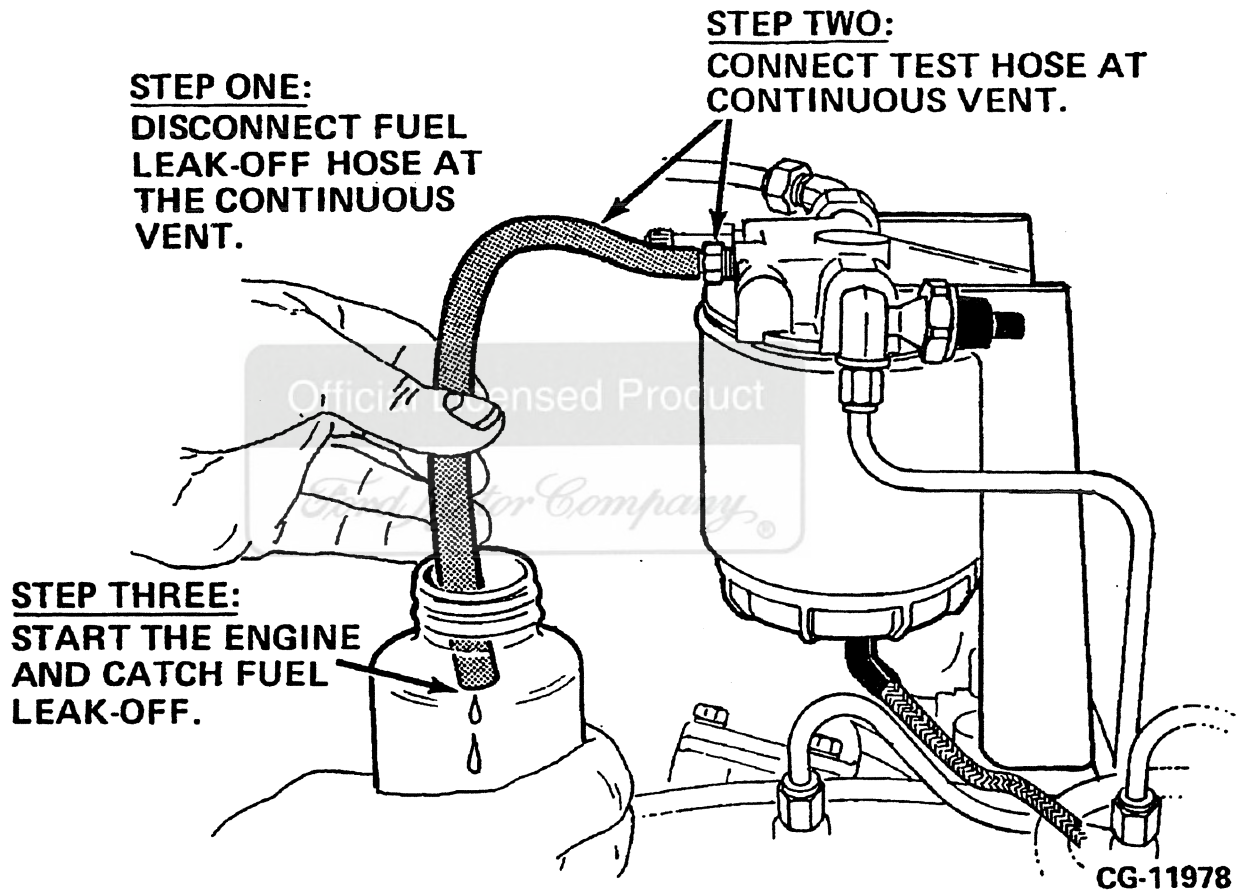

Figure 9.13. Diagnostic Test For Blocked Orifice
**PROCEDURE:** (Refer to Figure 9.13)